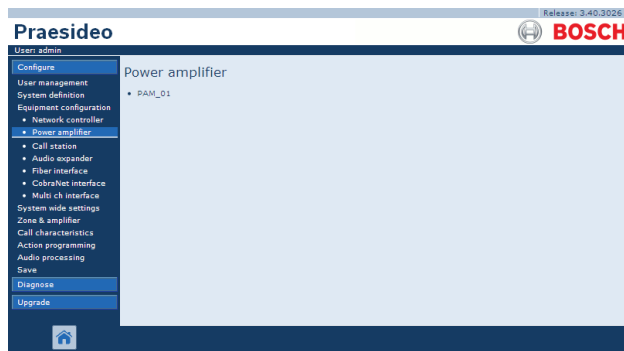

figure 43.9: Configure power amplifier, step 1
- 1 Go to *Configure > Equipment configuration > Power amplifier*. A screen similar to the one in figure 43.9 appears in the main frame of the web interface.